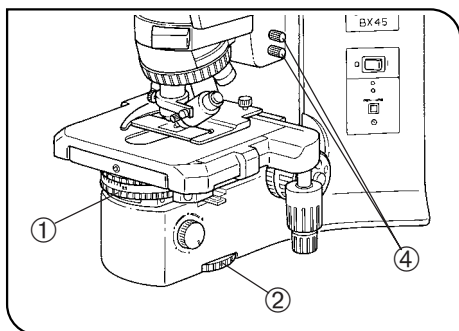

Fig. 33
2 Observation Procedure (Figs. 33 - 35)
Store the centering screws in the accommodation positions ④ on the right side of microscope frame so as not to lose them. (Fig. 33)
1. Turn the turret (① in Fig. 33) to engage the BX45-DFA in the light path.
1. Turn the turret (① in Fig. 33) to select BF of the transmitted brightfield observation light path.